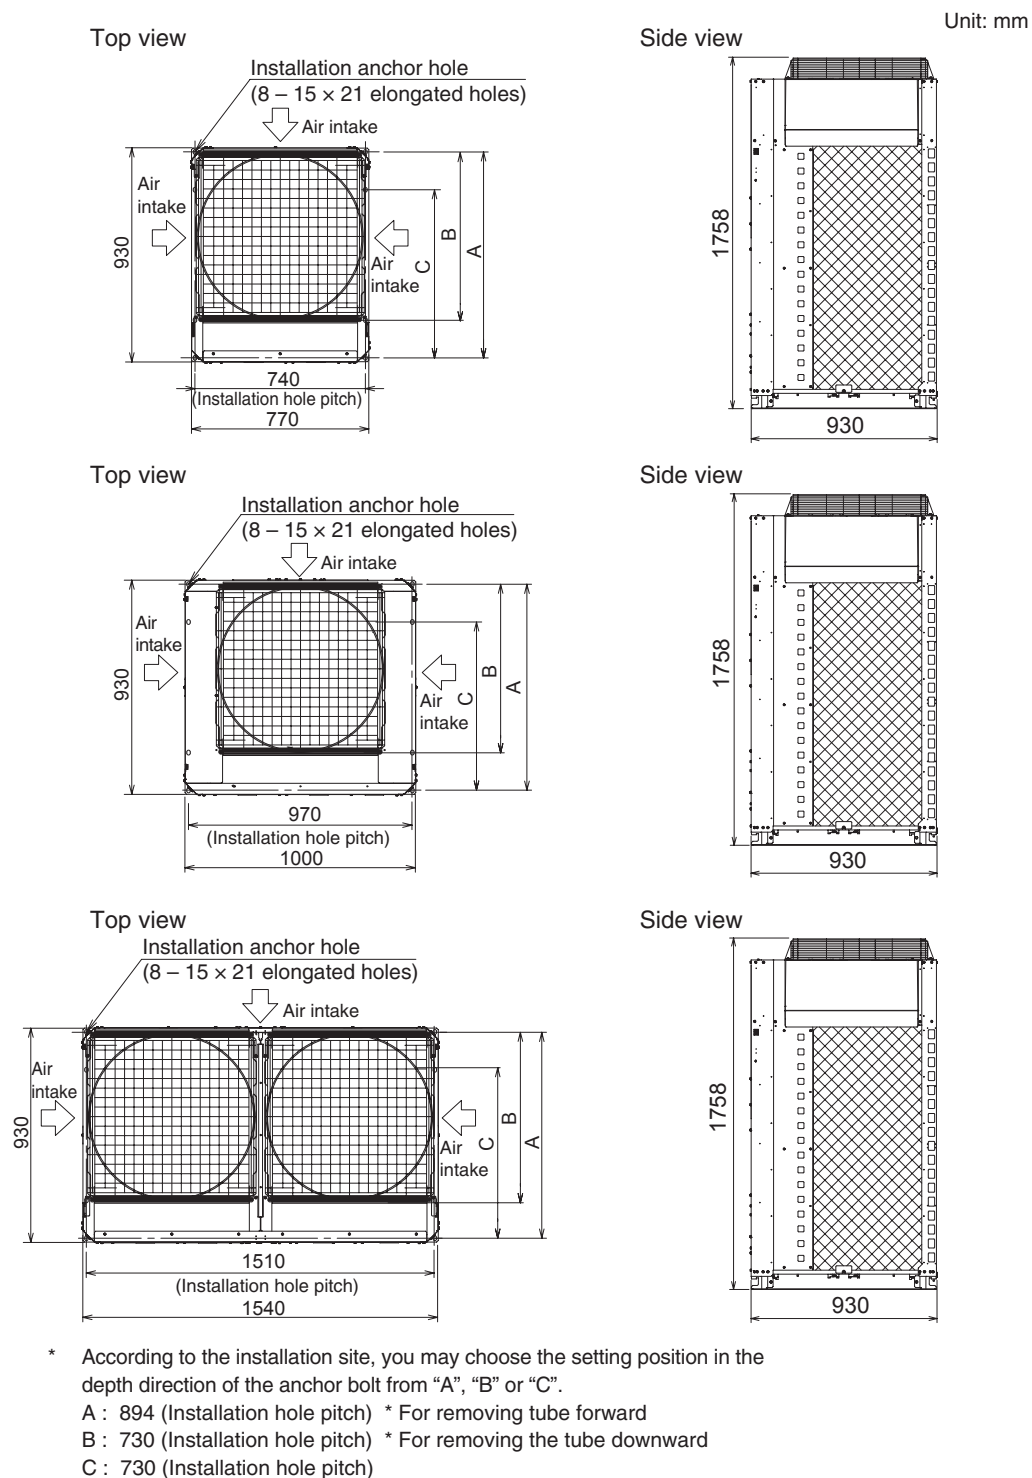

Fig. 2-14
- ** When setting the anchor bolt to position "B" or "C" (See Fig. 2-14), make the space between the unit and the wall more than 250 mm for installation operation.
- *** When setting the anchor bolt to position "B" or "C" (See Fig. 2-14), make the space between the outdoor units more than 180 mm for installation operation.